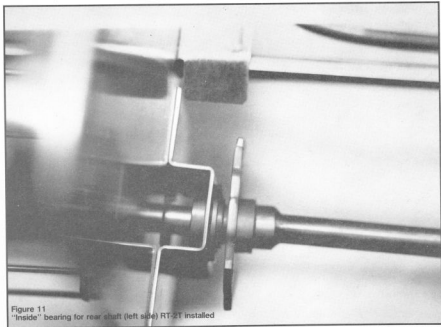

Figure 11
5. Install shaft through cavity with bearing in place on the "inside" end of shaft. Insert "outside" end of shaft into the "outside" bearing hole for clearance. Then slide "inside" bearing with shaft into its retainer bracket on conveyor bracket. (See Figure 11)